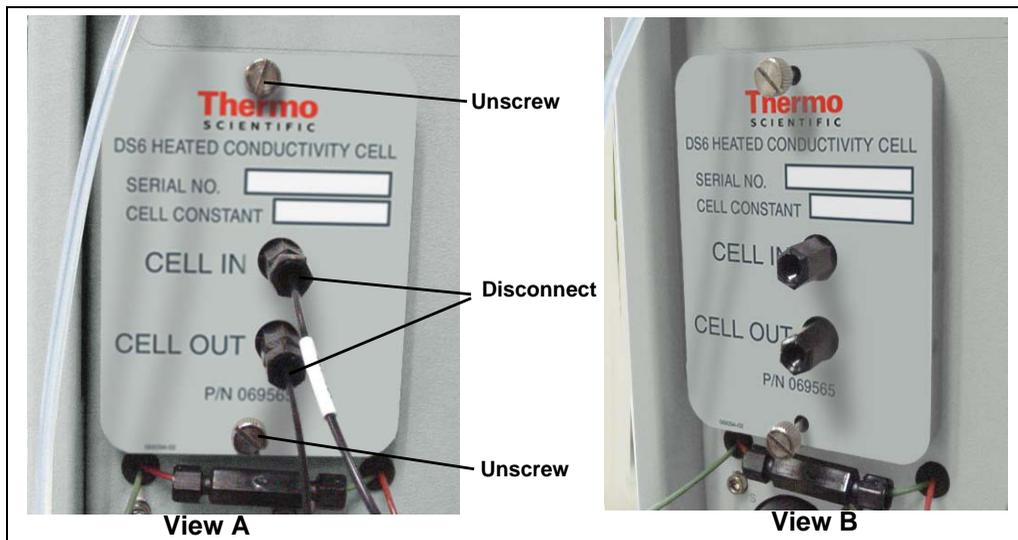

Figure 5-12. Removing the Cell Front Cover
2. Open the front door and disconnect the tubing from the **CELL IN** and **CELL OUT** fittings (see Figure 5-12, View A). Loosen the two screws on the cell front cover. The screws remain attached (see Figure 5-12, View B).